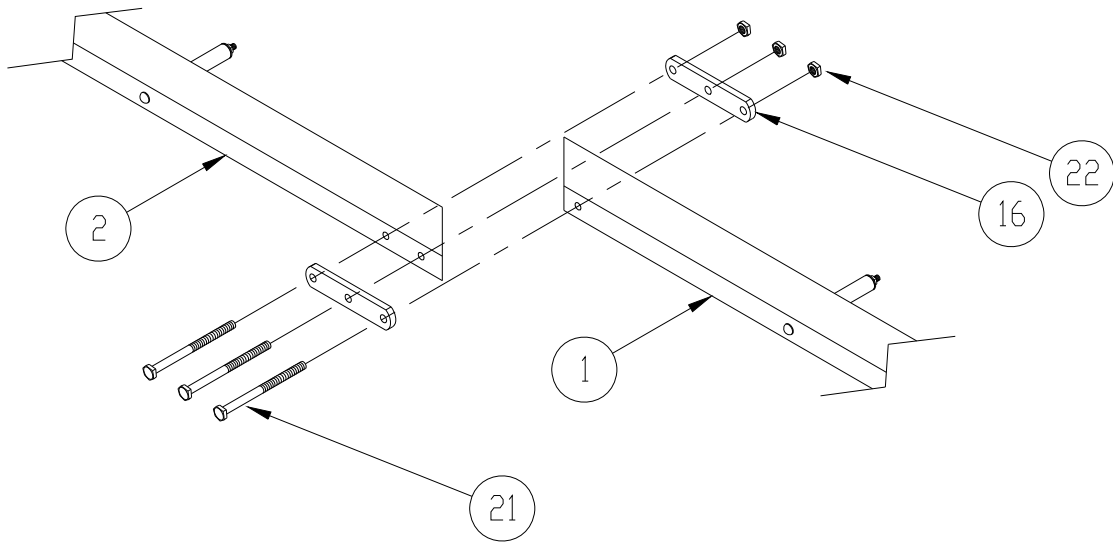

Figure 2-2.
2. Refer to **Figure 2-2**. Assemble both sides of your canopy frame on the ground using (1 ea.) left hand stringer (1), and right hand stringer (2), for each side assembly. Canopy rib bushings are offset to the outside of stringer face. Make certain that all stringers are positioned properly. Fasten each joint together with two three-hole plates (16), and hardware shown. Each stringer assembly **MUST** be straight for proper fabric fitting.